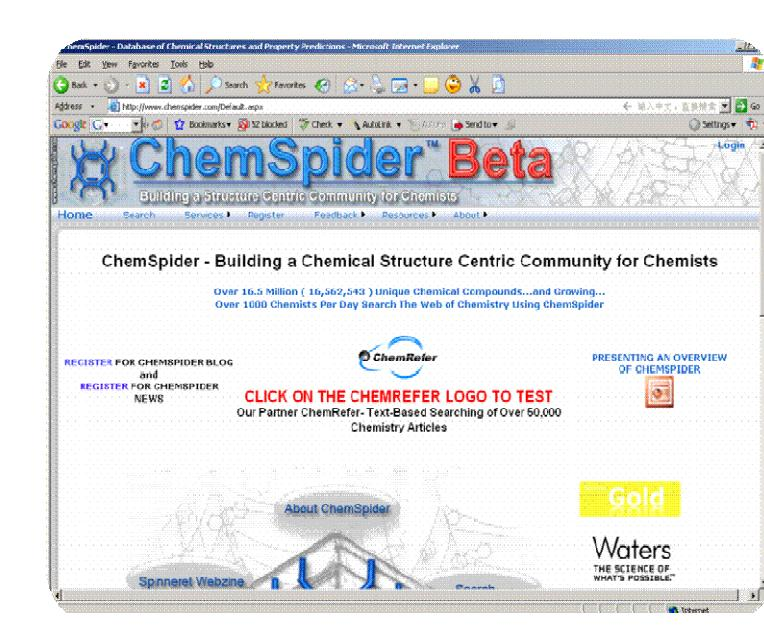

Fig 9: Online database search engine: ChemSpider
- Local databases and on-line searching can be performed. ChemSpider (fig. 9) is a free online chemistry search engine that accesses over 80 different databases.